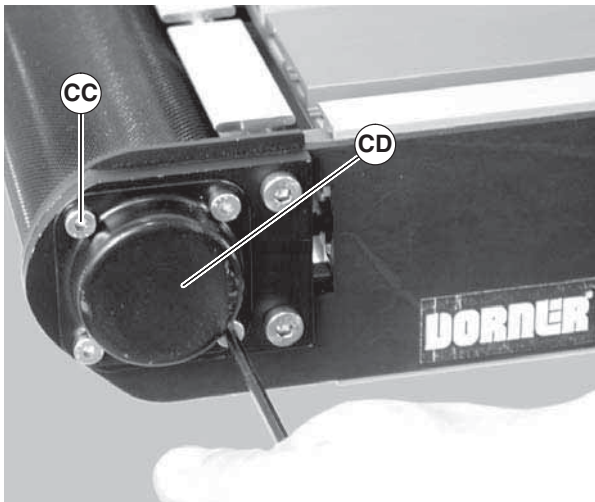
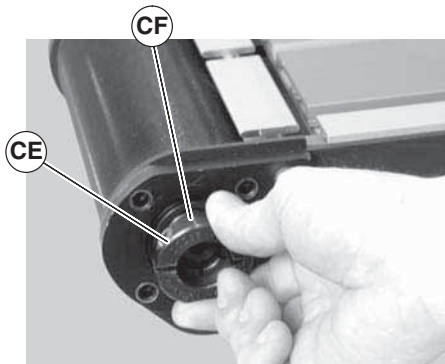

Figure 67
Figure 68
4. Loosen the bearing collar set screw (Figure 67, item CE) and remove bearing collar (CF). Repeat on drive shaft side of pulley (Figure 68, item CE and CF).